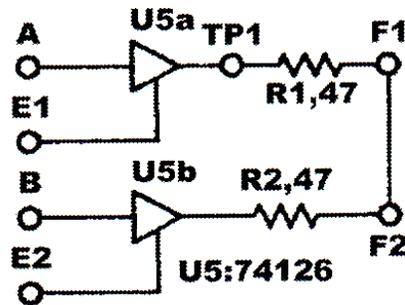

Fig.2-33
1. Construct the circuit shown in Fig. 2-33 on circuit c of Module DLLT-EM03.